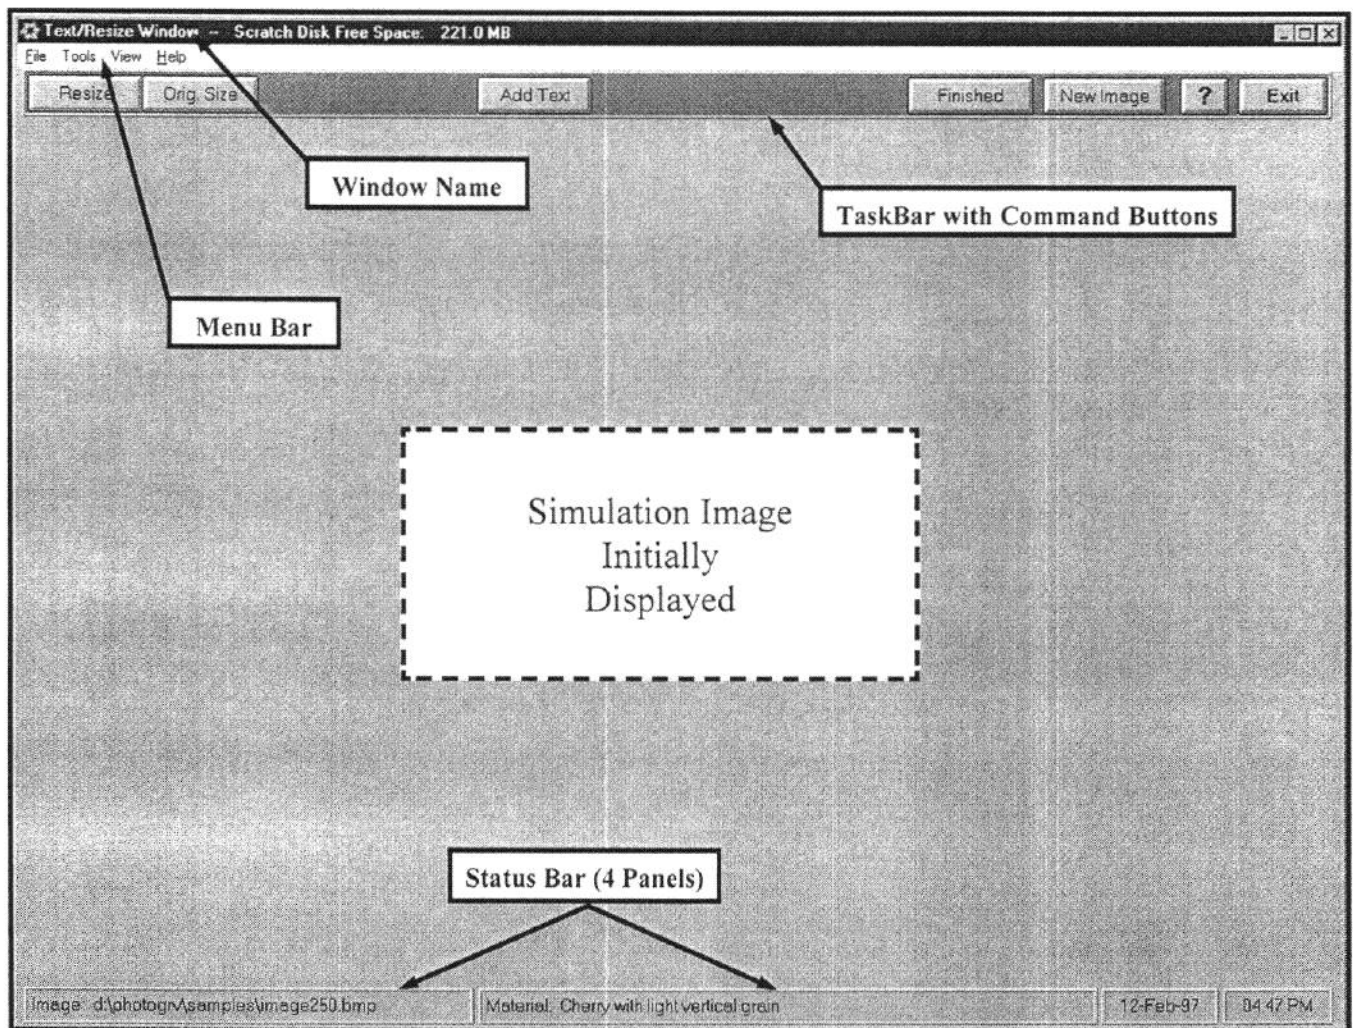
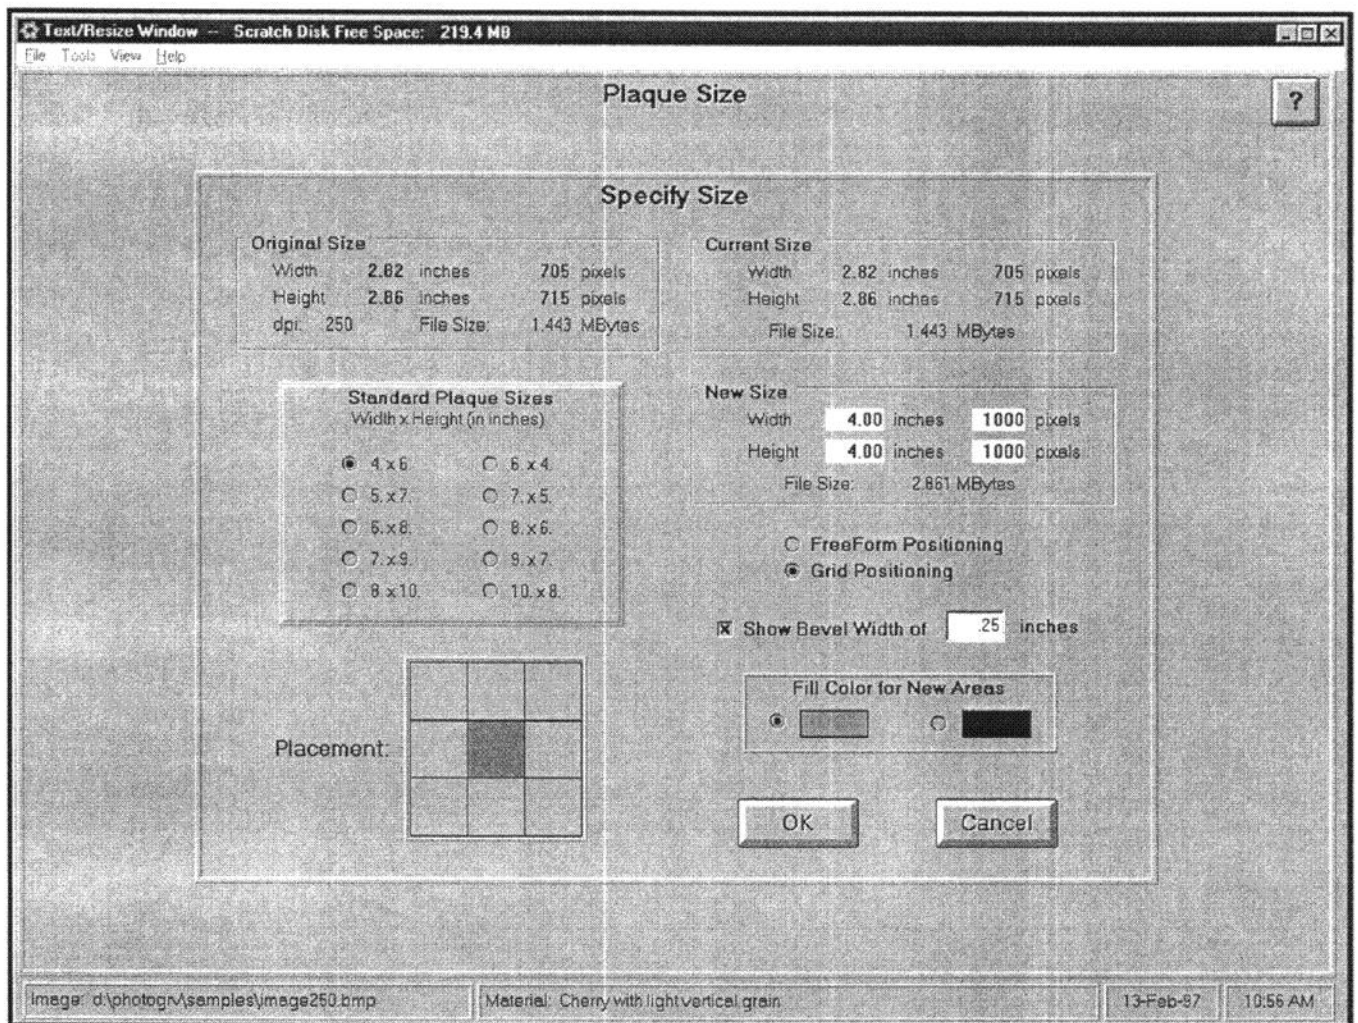

Fig. 3.4-1: Text/Resize Window
Fig. 3.4-2: “Plaque Size” Panel (Invoked by “Resize” button)
This window (see Fig. 3.4-1) initially displays the entire Simulation Image and provides the capability to resize and add text to this image. Any such operations that are performed on the Simulation Image are ALSO PERFORMED on the Engraved Image although that image is not initially displayed.
| Resize     | This command button causes the display of a panel (see Fig. 3.4-2) which presents a set of options for resizing the Simulation Image. Resizing can consist of: (1) "Cropping" the processed images to remove unwanted portions OR (2) Enlargement of the "canvas" on which the processed images reside.                                                                                                                                                                                           |
The TaskBar command buttons described above are those that appear when the **Text/Resize** window is initially displayed. Also, Fig. 3.4-1 presents the initial appearance of the **Text/Resize** window before any commands have been invoked or any operations performed. When certain commands are invoked, other panels and/or windows are often displayed to support the specified operation and the command buttons visible and active in the TaskBar might change to support the specified operation or to provide a new set of options. Changes to the **Text/Resize** window (Fig. 3.4-1) and changes to the TaskBar as commands are invoked are presented and described in the following.
Clicking **Resize** causes the the “**Plaque Size**” panel to be displayed in the **Text/Resize** window (Fig. 3.4-2). This panel presents several methods for “resizing” the Simulation Image.
The top two frames in the "**Plaque Size**" panel are informational only and present the "Original Size" and the "Current Size" of the Simulation Image. The "Current Size" is the size if any previous resizing operations have been performed. For the case in Fig. 3.4-2, no previous resizes were done so the original and current sizes are the same. The "New Size" frame provides the capability for you to change the size of the "canvas" on which the Simulation Image resides by entering numeric values in the white text boxes. The new size can be specified in inches or in pixels and can be an enlargement or "cropping" of the original size. The new size can also be specified by clicking one of the options in the "Standard Plaque Sizes" panel to the left of the "New Size" frame. Clicking an option causes the appropriate values to be entered into the white text boxes in the "New Size" frame. For the example in Fig. 3.4-2, the new size has been specified as 4.00" x 4.00". It is important to note that the size and scale of the digitized photograph is NOT changed by this operation. Rather, just the "canvas" or background on which the photograph resides is being changed (enlarged or "cropped").
There are two options available for how the Simulation Image is positioned on the newly-sized canvas: (1) FreeForm Positioning and (2) Grid Positioning. If the "FreeForm Positioning" option is chosen, then the "Placement" box (located to the lower left of the panel in Fig. 3.4-2) is not visible and one is allowed, after the "OK" button is clicked, to "click and drag" to position the Simulation Image anywhere within the newly-sized canvas (see Fig. 3.4-3). If the "Grid Positioning" option is chosen, then the "Placement" box is used to position the Simulation Image in one of the nine grid positions provided by the "Placement" box. A grid position is selected by clicking on one of the nine grid positions which becomes darker indicating its selection. After clicking the "OK" button, the Simulated Image is then positioned appropriately and displayed.
The "Fill Color for New Areas" frame provides two options for "filling" areas when the newly-sized canvas is larger than the original Simulation Image. The left-hand option (lighter-colored box in Fig. 3.4-2) will fill areas with a color corresponding to the "unburned" (laser off) engraving material. The right-hand option (darker-colored box in Fig. 3.4-2) will fill areas with a color corresponding to the "burned" (laser on) engraving material. For positive-polarity materials ("burned" is darker than "unburned"), the "filled" background is generally indistinguishable from the background of the original Simulation Image. For negative-polarity materials ("burned" is lighter than "unburned"), there is usually a slight color difference between "filled" background and "original" background due to "incomplete burnoff" in generating the Simulation Image.
Clicking the "Cancel" command button causes the "**Plaque Size**" panel to disappear and the **Text/Resize** window to be restored to the appearance and status it had before the **Resize** command button was clicked. Clicking the "OK" command button also causes the "**Plaque Size**" panel to disappear and then causes one of two actions depending on whether the "FreeForm Positioning" or "Grid Positioning" option had been selected. If the "Grid Positioning" option had been selected, then the Simulation Image is automatically positioned on the newly-sized canvas and the result displayed in the **Text/Resize** window as depicted in Fig. 3.4-1 with the newly-sized image replacing the original Simulation Image. If the "FreeForm Positioning" option had been chosen, then the **Text/Resize**
Clicking the "Cancel" command button causes the "FreeForm Positioning" objects in Fig. 3.4-3 to disappear and the **Text/Resize** window to be restored to the appearance and status it had before the **Resize** command button was clicked. In other words, clicking the "Cancel" button pictured in Fig. 3.4-3 has the same effect as clicking the "Cancel" button depicted in Fig. 3.4-2. Clicking the "OK" command button causes the "FreeForm Positioning" objects to disappear, positions the Simulation Image on the newly-sized canvas as specified, and displays the result in the **Text/Resize** window as depicted in Fig. 3.4-1 with the newly-sized image replacing the original Simulation Image.
There are no changes to the TaskBar command buttons as a result of the resizing operations discussed in the last several pages except that the "Orig. Size" command button is now enabled unless either of the "Cancel" command buttons in Figs. 3.4-2 or 3.4-3 was chosen.